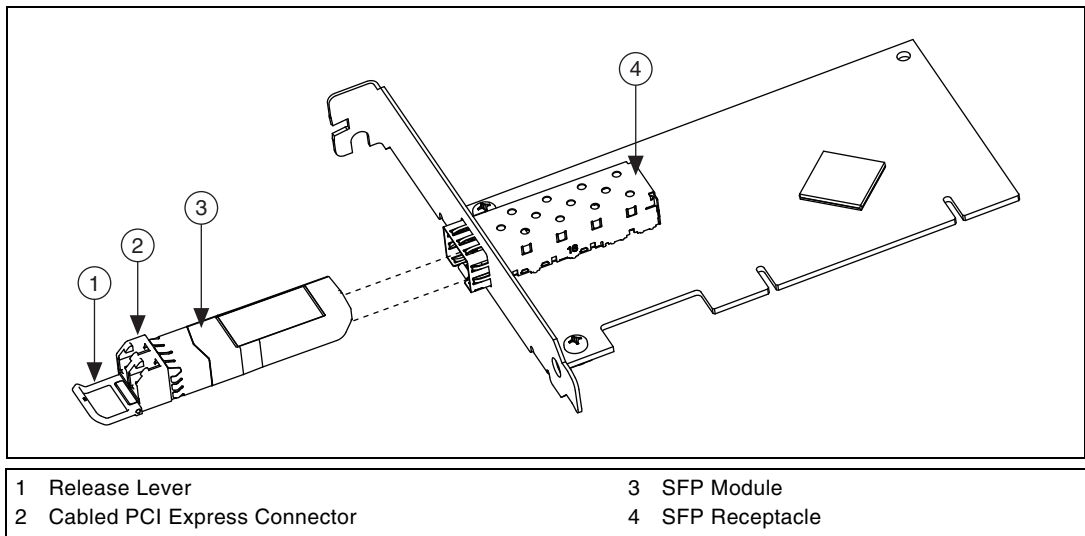
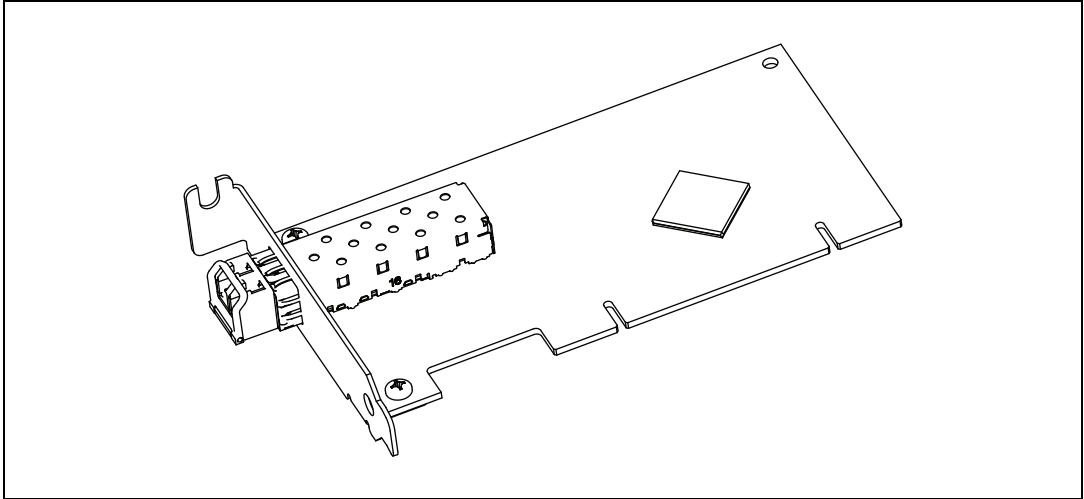

Figure D-1. SFP Module Removal
Figure D-3. Completed Low-Profile Bracket Installation on the NI PCI-8366
3. Gently pull the release lever toward you to release the catch mechanism of the SFP module. The SFP module should easily slide out of the receptacle as shown in Figure D-1.
8. Hold the SFP module in the orientation shown in Figure D-1. Ensure the release lever is closed in its upright position and gently slide the SFP module into the SFP receptacle. The SFP module will click into place when fully engaged, as shown in Figure D-3.